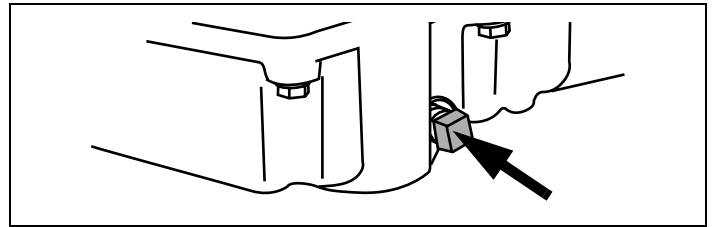

Figure 19. Oil Drain Plug Location
1. Be sure you find the correct drain plug location, if present (see equipment manufacturer's instructions). See Figure 19.
6. Remove oil drain plug and drain oil into an approved container. See Figure 19.